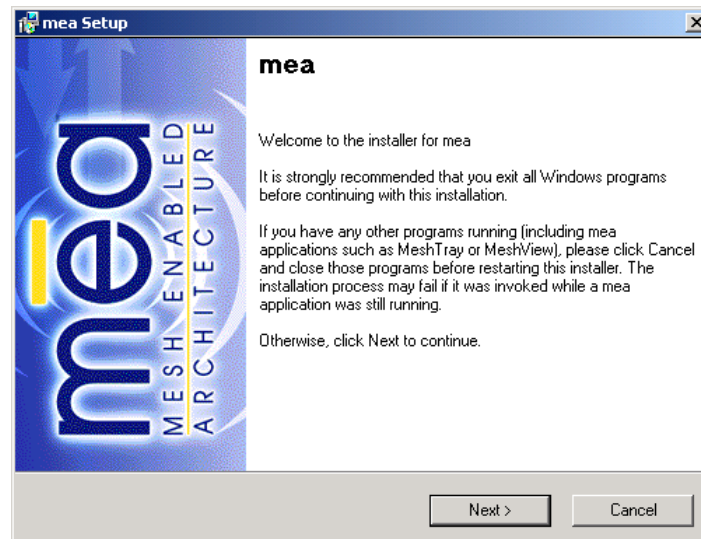

Figure 3. MEA Setup - Welcome Dialog
5. The MEA Setup dialog box will be displayed as shown in Figure 3.